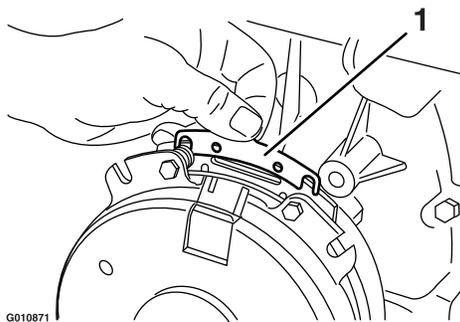

Figure 71
- B. Using needle-nose pliers, or by hand, hold the tab and remove the shim (Figure 71).